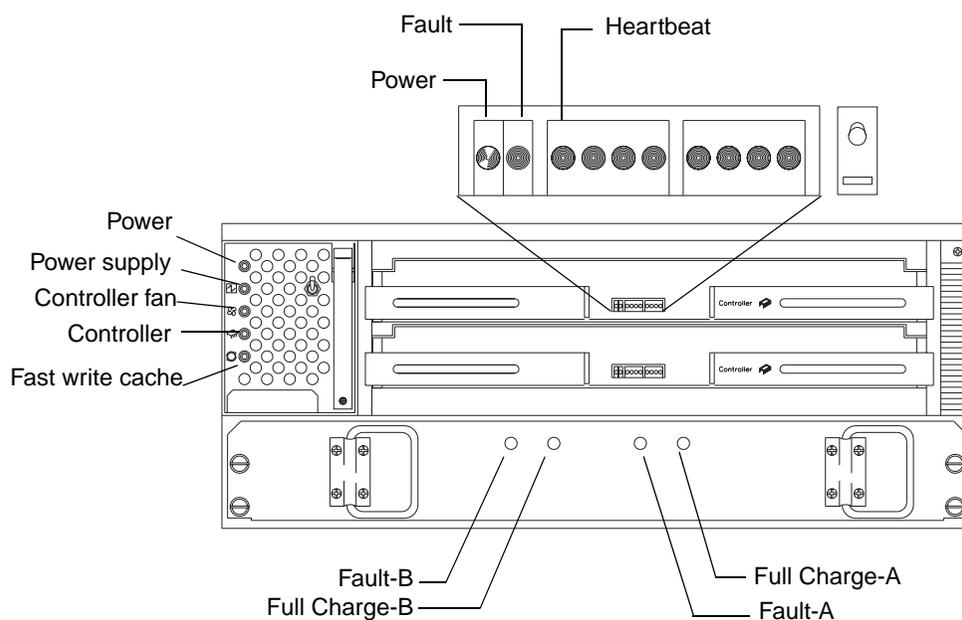

Figure 9. Indicator lights (front)
- 2 Check the indicator lights on the front of the controller unit. The indicator lights are shown in Figure 9 on page 16 and described in Table 2 on page 16.